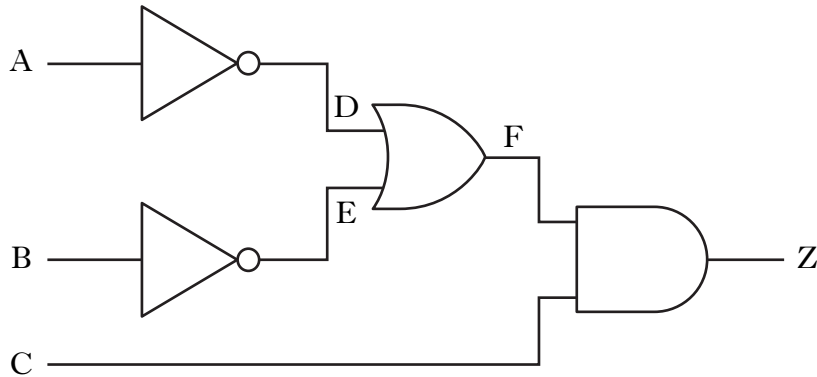

Figure Q1
1. A logic circuit for the control of an industrial stamping machine is shown in Figure Q1.
The circuit shown in Figure Q1 could be replaced by an equivalent logic circuit constructed entirely from NAND gates.